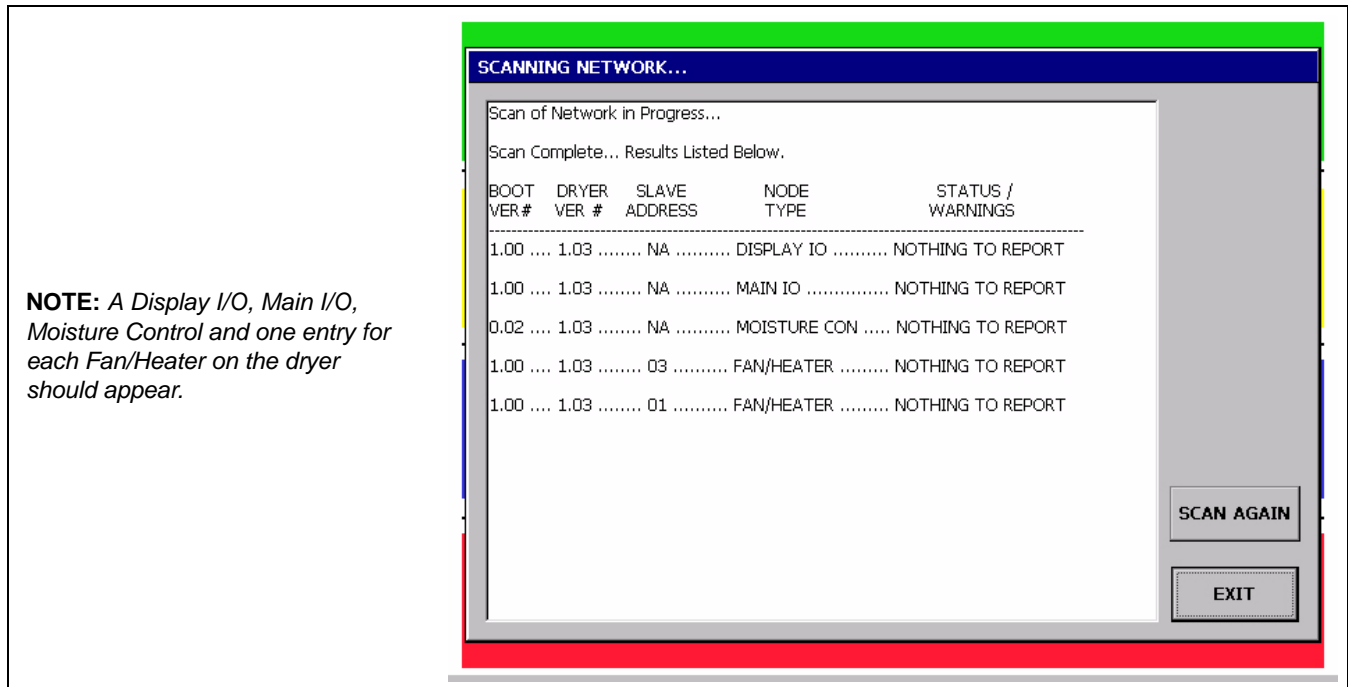

Figure 4F
- After the scan is complete, the Display I/O, Main I/O, Moisture Control and the Fan/Heater(s) should be shown as “Nothing to Report”. (See Figure 4F.)